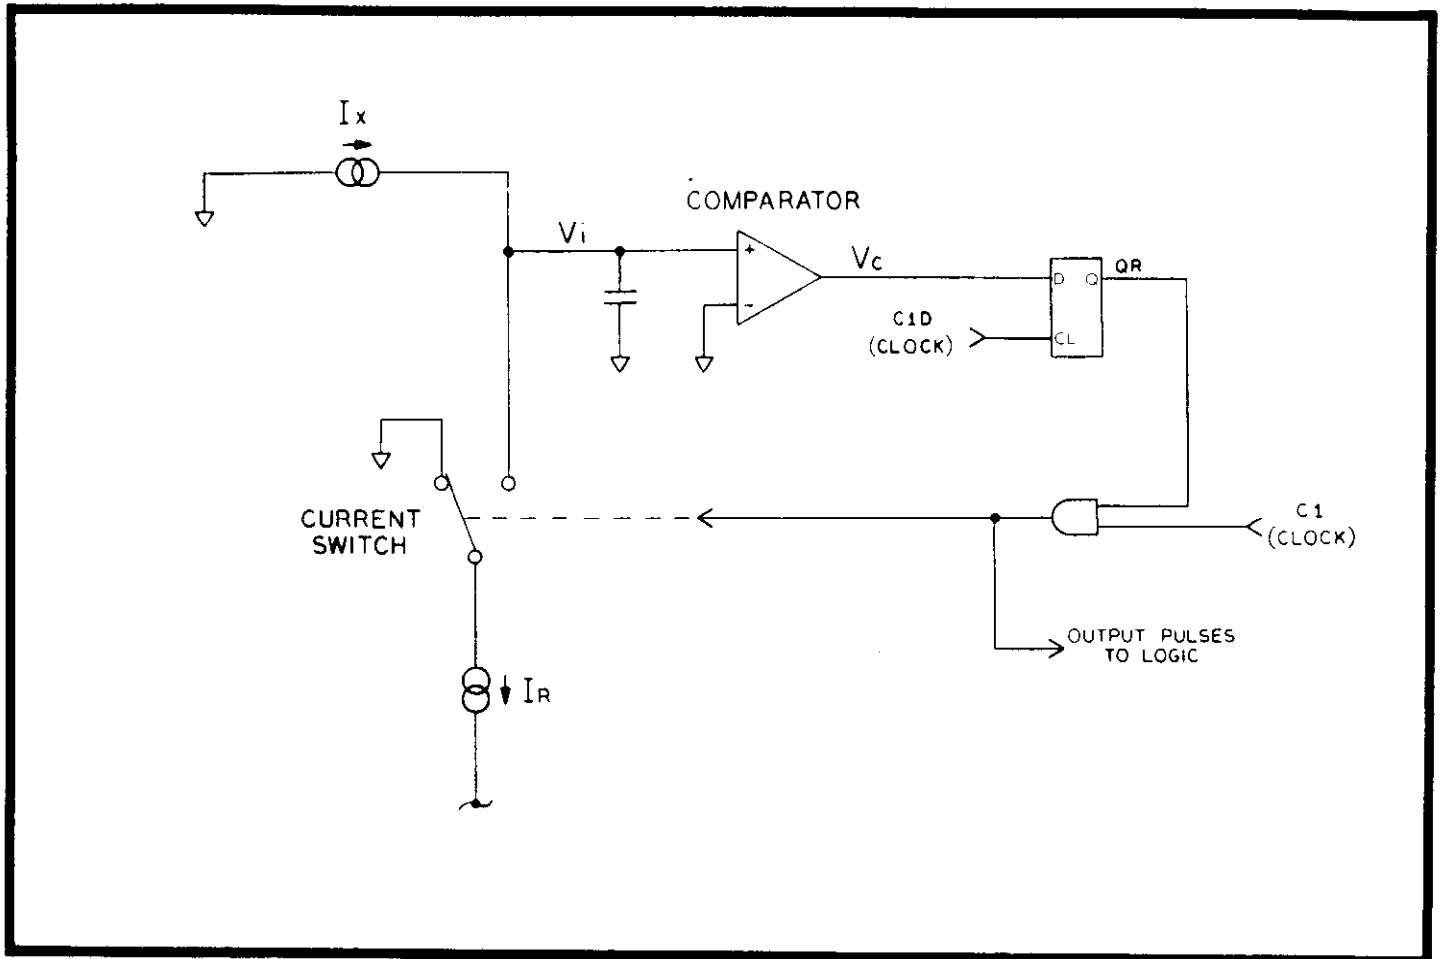
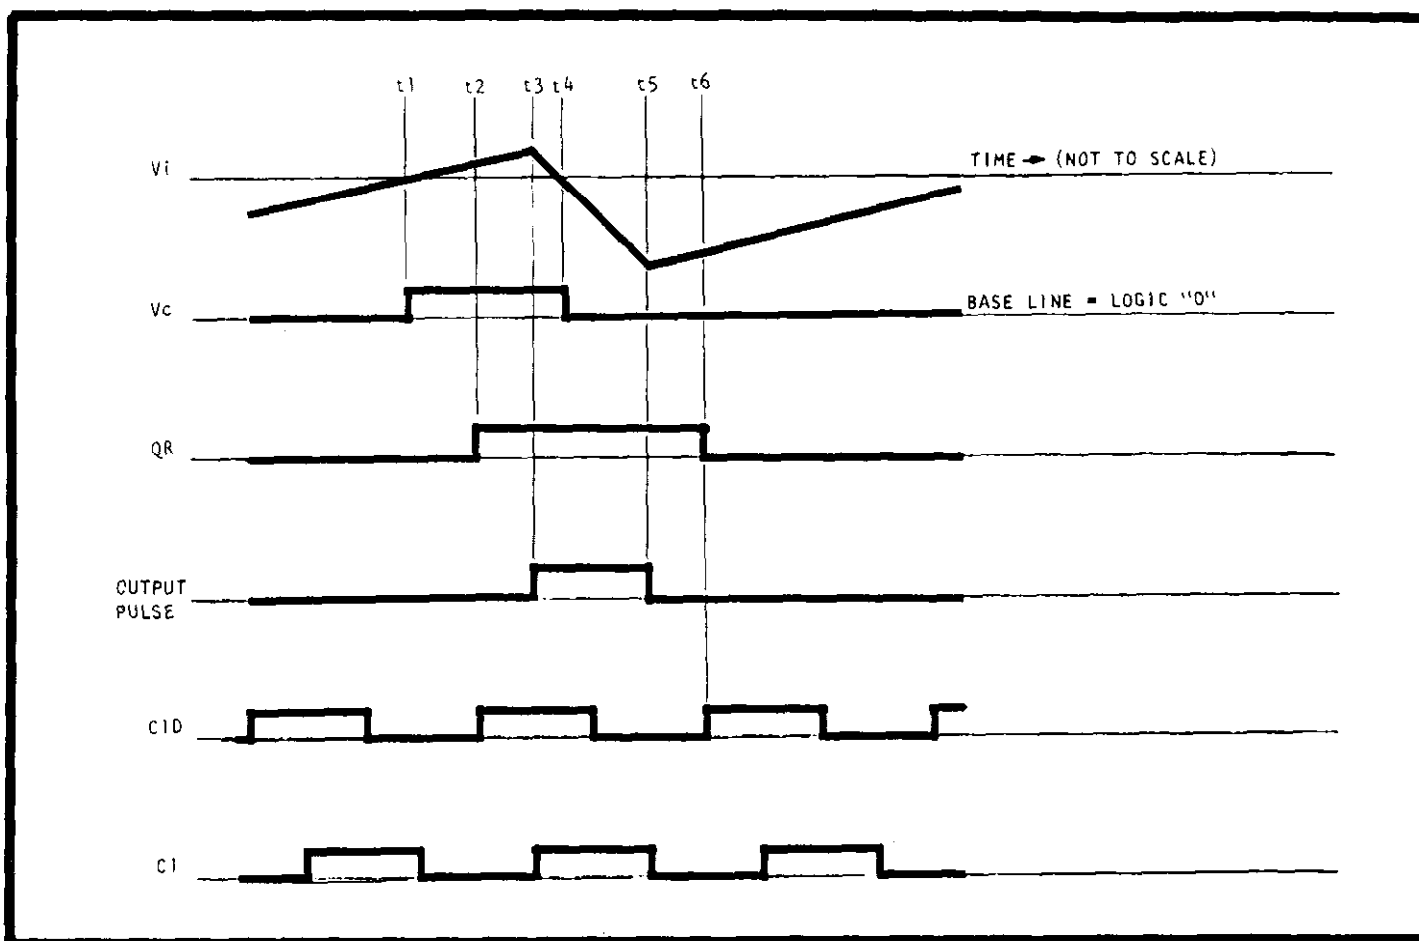
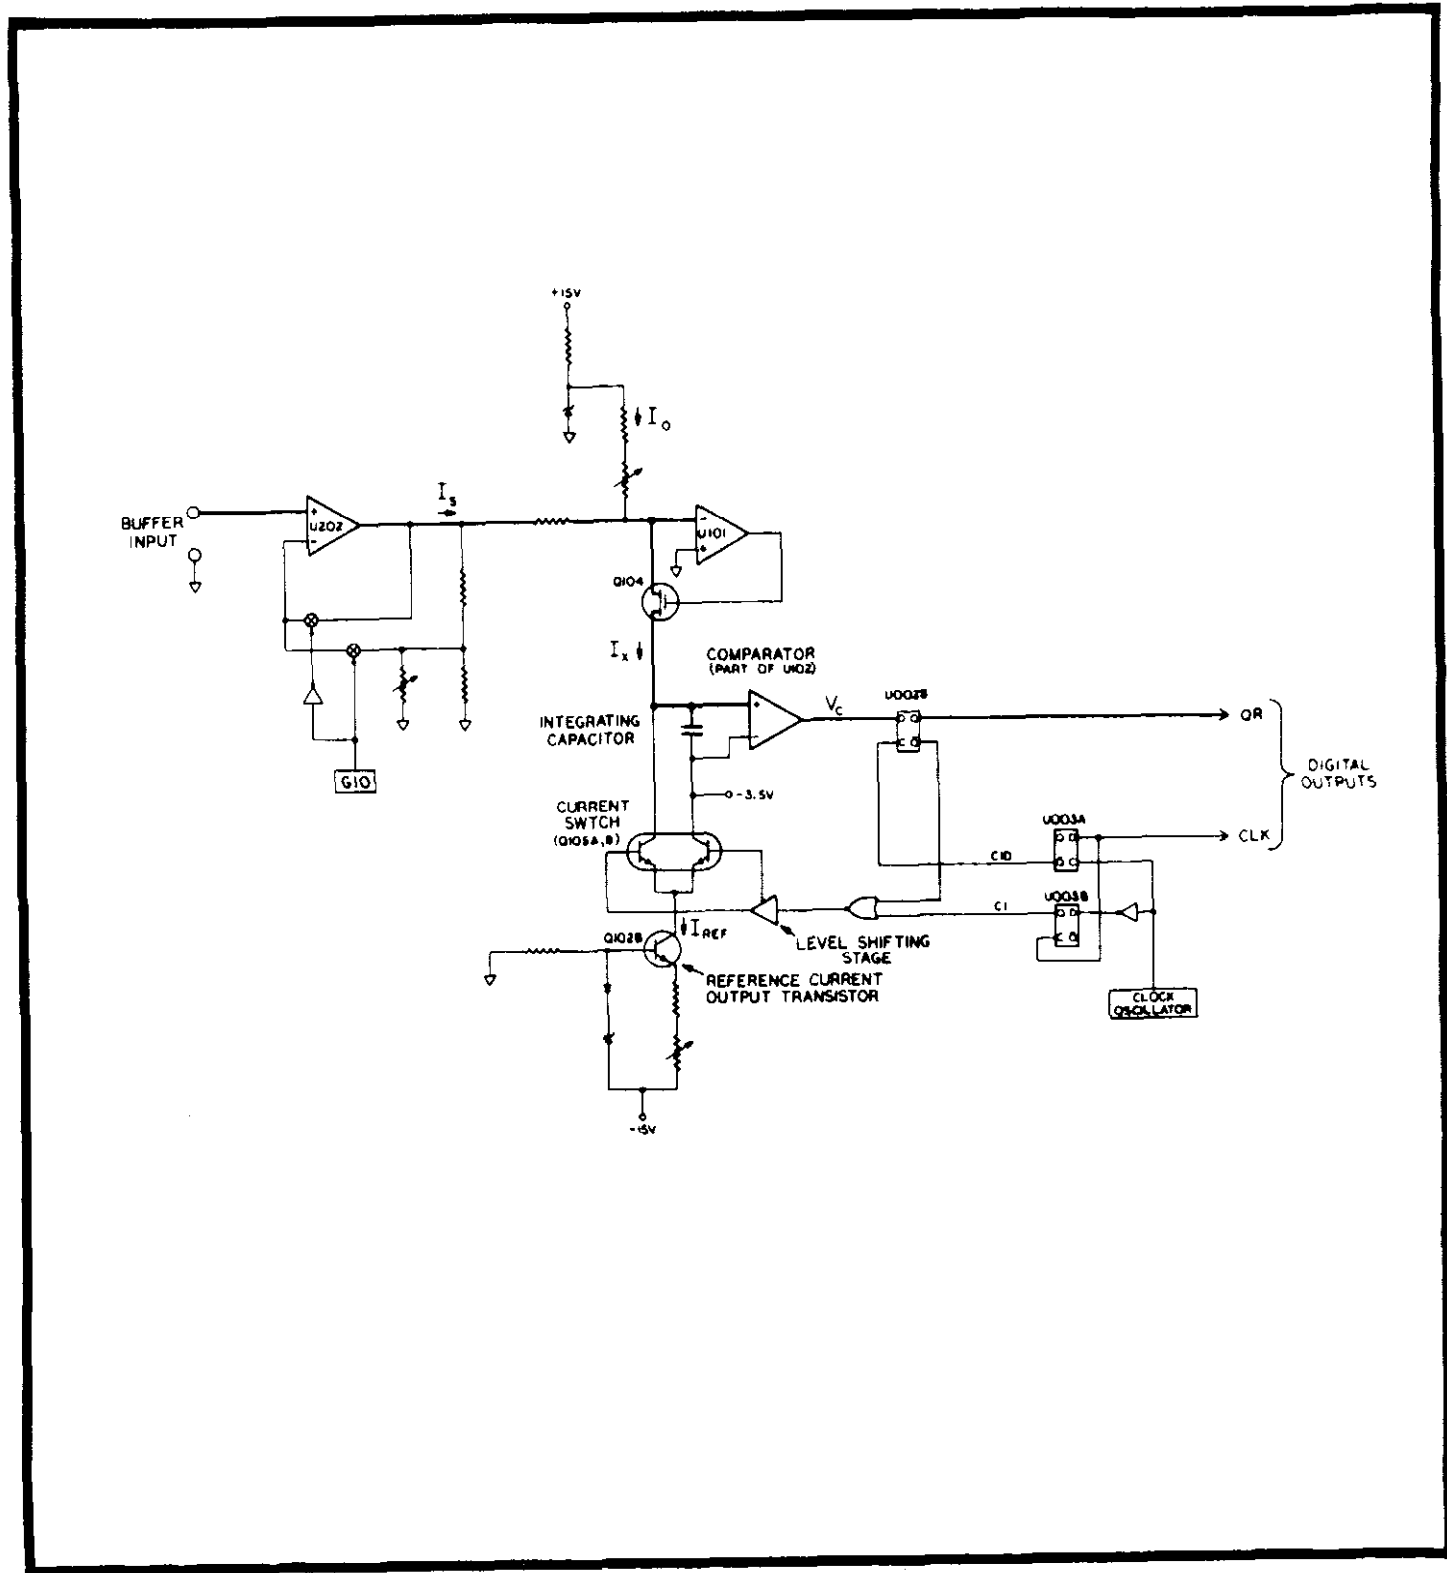
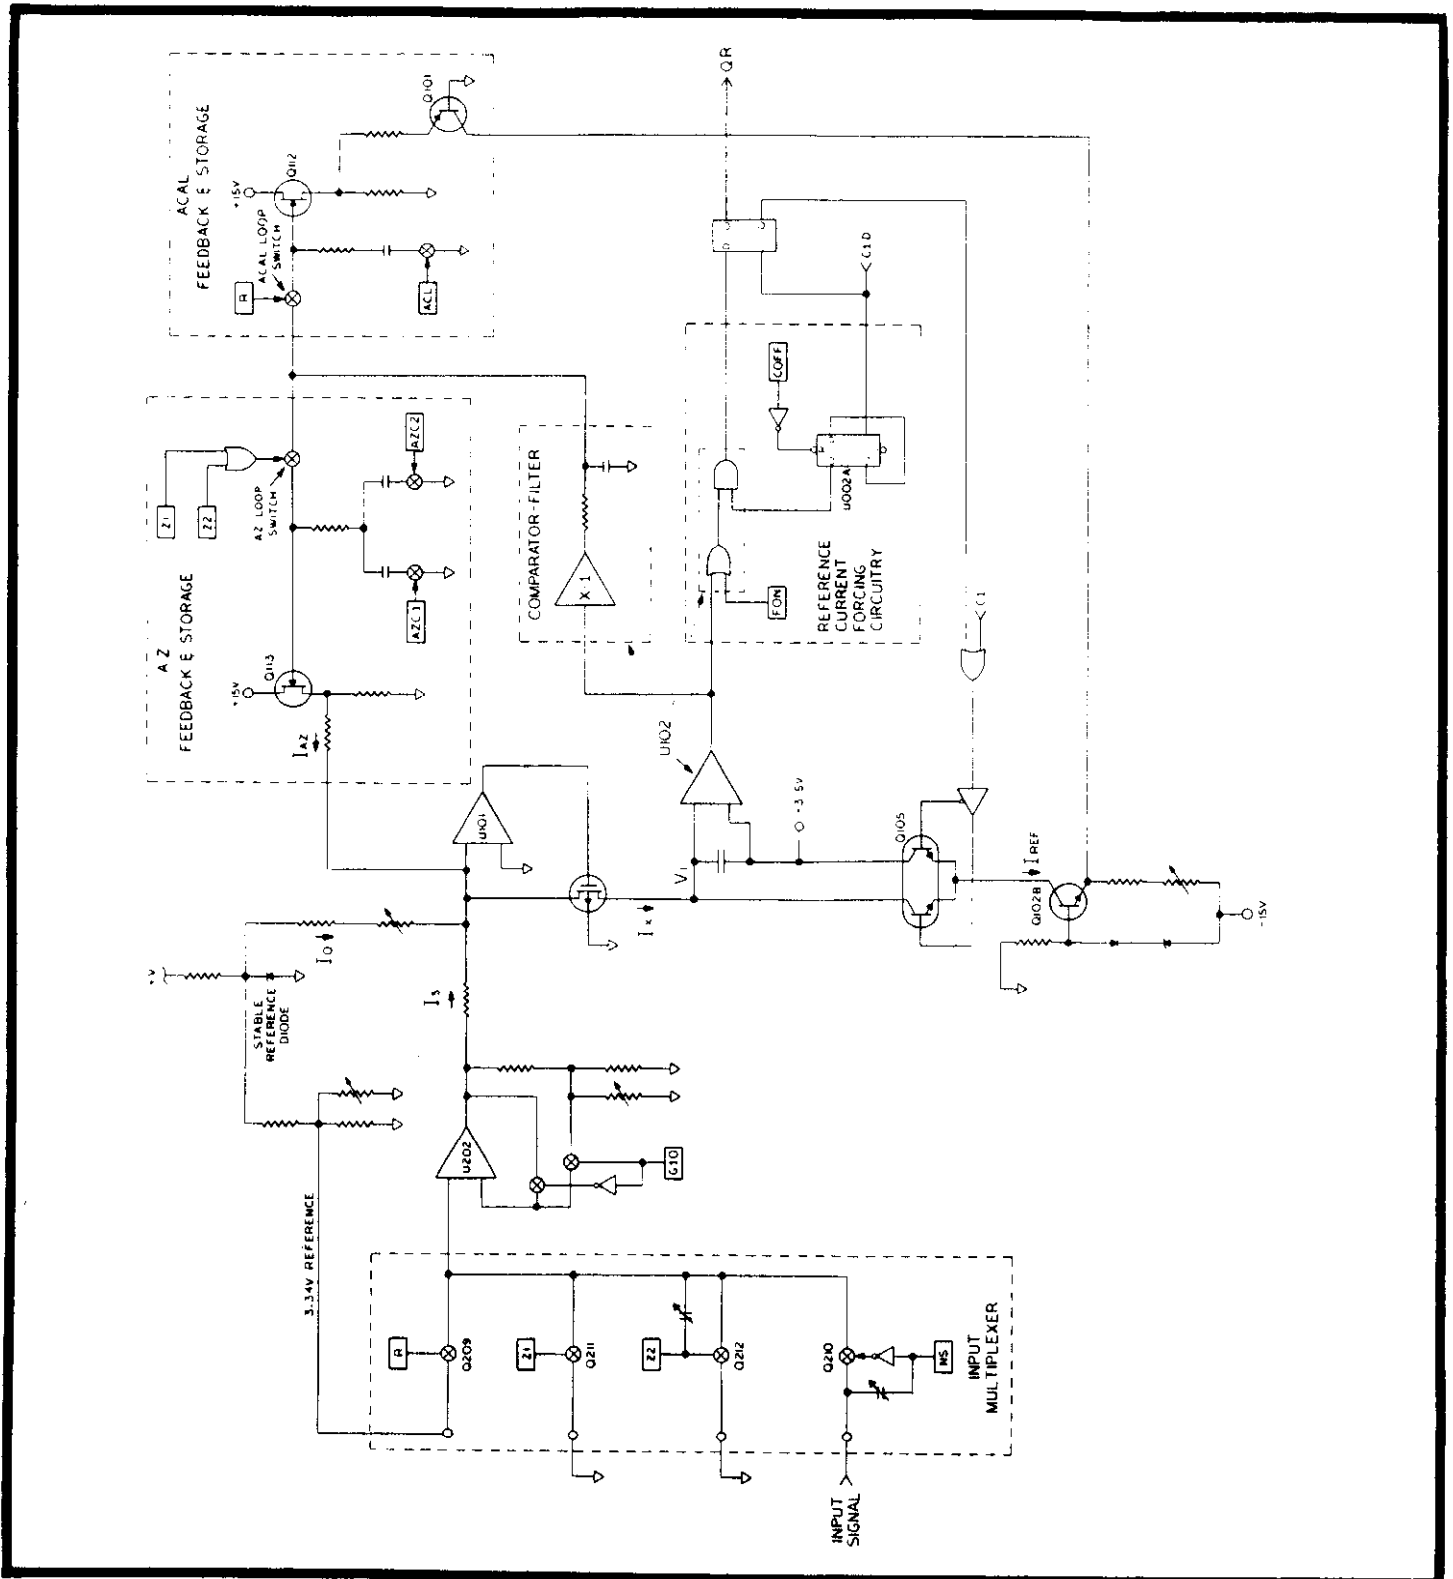

FIGURE 28. Basic Charge-Balance Converter.
FIGURE 29. Operating Waveforms of A/D Converter.
FIGURE 30. Simplified Schematic.
Figure 31. Simplified Diagram of Complete A/D Converter
1. The simplified circuit shown in Figure 28 illustrates the basic principles of the charge-balance V/F converter. Its operating waveforms are shown in Figure 29. Assume the integrating capacitor voltage, V_i , to be initially negative. As the input signal current I_x is integrated by the capacitor, V_i rises and eventually becomes more positive than the threshold of the comparator (time t_1 in Figure 29). The comparator output voltage V_c , which is a logical variable, then rises to a logic 'one'. At the next positive-going edge of the clock CID (time t_2 in Figure 29), this 'one' is latched by the flip flop and appears as the latched output QR . At t_3 , the out-of-
4. Figure 30 is a simplified schematic diagram of the circuitry actually employed to perform the V/F conversion. In addition to some added details of the circuitry already discussed, Figure 30 shows three major circuit elements not previously mentioned.
d) The remaining circuitry in Figure 30 is functionally equivalent (with some added details) to the basic charge-balance loop shown in Figure 28. The digital output signals QR and CLK are used by the digital subsystem, in effect, to reconstitute the pulse train discussed in connection with Figure 29.
1. The charge balance system shown in Figure 28 is inherently highly linear, but both its zero and full-scale calibration (scale factor) are susceptible to drift with time and temperature, due to a variety of effects. Through the use of a pair of related circuit functions, referred to as Auto-Zero and Auto-Calibrate, these intrinsic errors can be cancelled, resulting in a system whose scale factor is essentially as stable as the voltage of a reference zener diode and whose zero stability is limited principally by thermo-electric offsets. The techniques used to achieve this performance are described in this section.
exactly equals the correction current required to cancel the offset errors. Thus the integrator voltage, V_i , exhibits a charge balance sawtooth waveform like that shown in Figure 29, superimposed on a much slower ramp whose slope is proportional to this difference current. The auto-zero feedback system adjusts a correction current which flows into the summing junction of amplifier U101 so that the slope of the ramp is equal to zero. In this way, all zero errors are precisely cancelled.
5. The circuitry which performs the operations described above is shown in Figure 31, together with most of the charge balance system redrawn from Figure 28. The added circuitry is grouped in five major blocks:
a) The input multiplexer supplies the necessary "known" voltages to the input of the buffer amplifier at appropriate times, and connects the buffer amplifier to the signal source when that signal is to be measured. The multiplexer consists of JFET switches controlled by signals from the LSI chip. The two adjustable capacitors shown in Figure 31 are used primarily to neutralize the JFET switching charge in order to minimize the A/D input current.
3. The error-correction segment of the conversion cycle is further divided into three 40-msec. phases. During the first two of these phases, the buffer amplifier gain is held constant at either 1X or 10X (depending on DMM range and function). During the AZ1 phase, the input multiplexer supplies the buffer with a zero-reference voltage, and the Auto-Zero feedback loop is closed. The value of I_{AZ} required to correct any system zero-errors is established, and the closure of the AZC1 switch (see Figure 31) causes the source-follower gate voltage which produces this current
5. Buffer gain during the AZ2 phase is always the same as it is during the signal-measurement phase; it may differ from its value during AZ1 and ACAL. Because of the (possibly) changed buffer gain, the effective system offsets may have changed so the second Auto-Zero operation is required to prepare the V/F converter for an error-corrected signal measurement. This new value of the Auto-Zero correction voltage is stored on the capacitor controlled by the AZC2 switch (Figure 31).